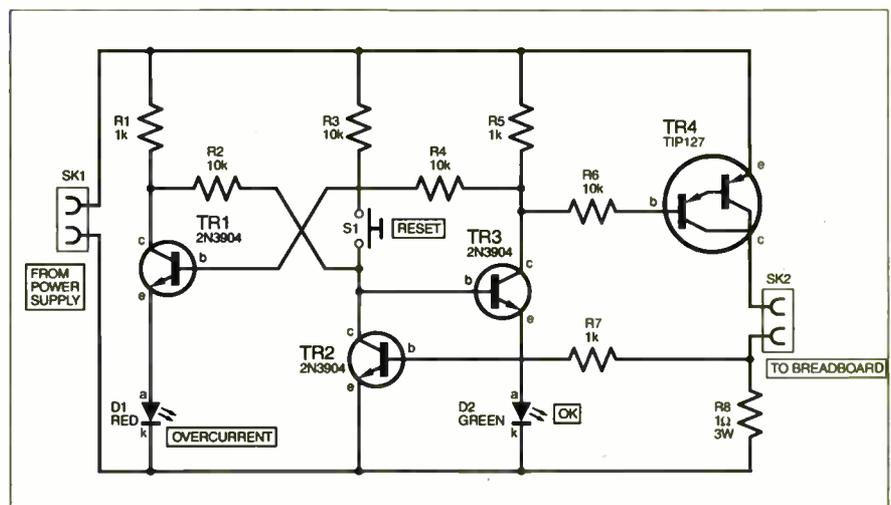

Fig.1. Circuit diagram for the Breadboard Project Protector
**T**HE Breadboard Project Protector circuit diagram shown in Fig.1, is a simple cutout device that should be particularly useful for the experimenter who regularly builds circuits on breadboards but who does not have the luxury of a power supply with built-in current limiting. The device is used as an add-on and wired between a "home-made" power supply, i.e. a simple transformer-rectifier-smoothing capacitor arrangement, and the breadboard.